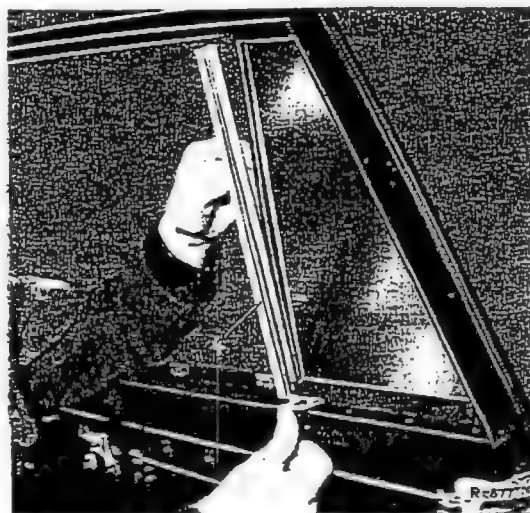

Fig. 73-13/2
8. Remove the stay bar (4) as shown in Fig. 73-13/2.